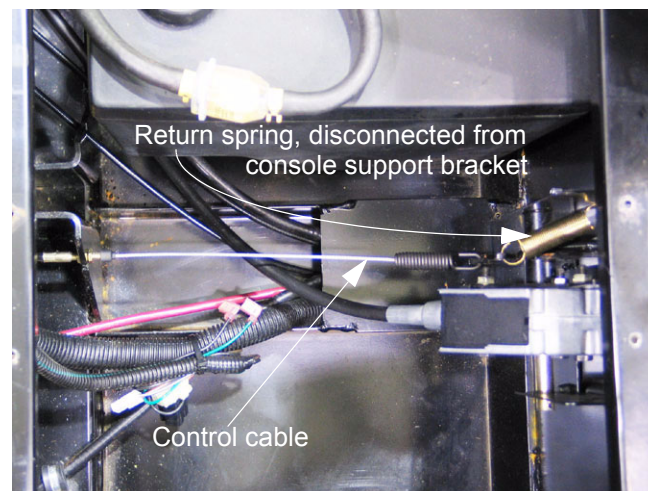

Figure 4.32
- 4.32. To reach the differential lock control and cable: See Figure 4.32.